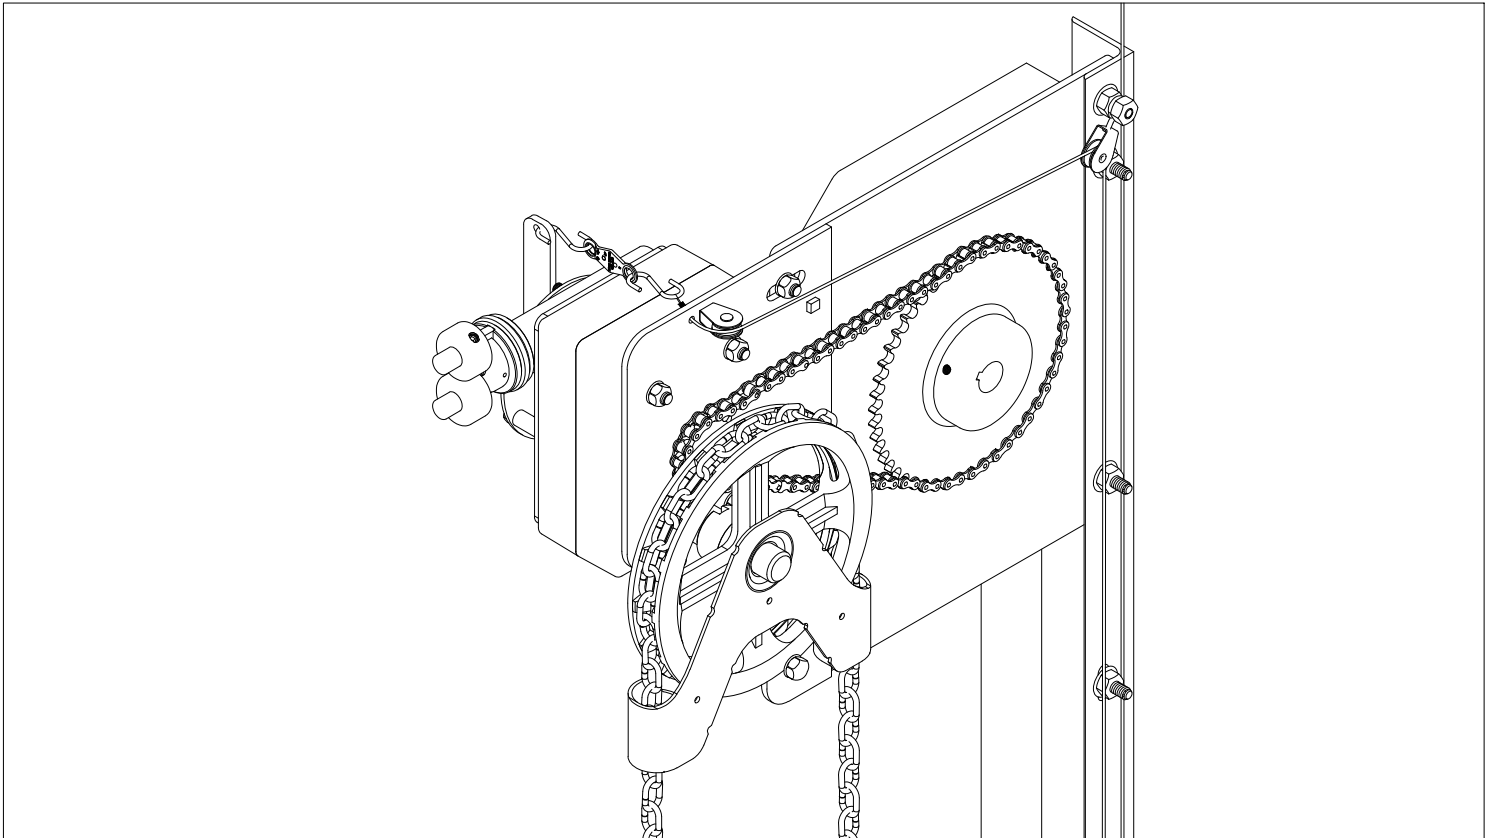

FIGURE 3
- e. Install the operator and bracket assembly to drive side headplate with two 1/2" x 1" carriage bolts as shown in Figure 3.
- g. Install door drive shaft sprocket with key stock as shown in Figure 3.